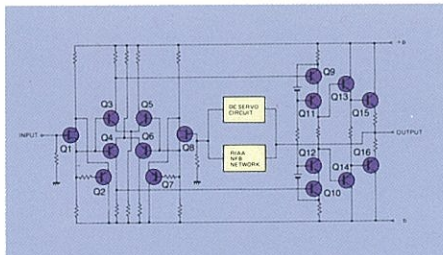

Fig. 2 Circuit Diagram of Equalizer Amplifier
Disc sound quality largely depends on the equalizer (EQ) amp, because the EQ amp determines RIAA characteristics. The circuit diagram of the E-303X's EQ amp is shown in Figure 2. The input stage is a differential amplifier with an FET buffer, the pre-drive stage is a cascode circuit composed of Q9–Q12, and final stage is a Darlington pair output composed of Q13–Q16. Each stage employs push-pull circuitry.